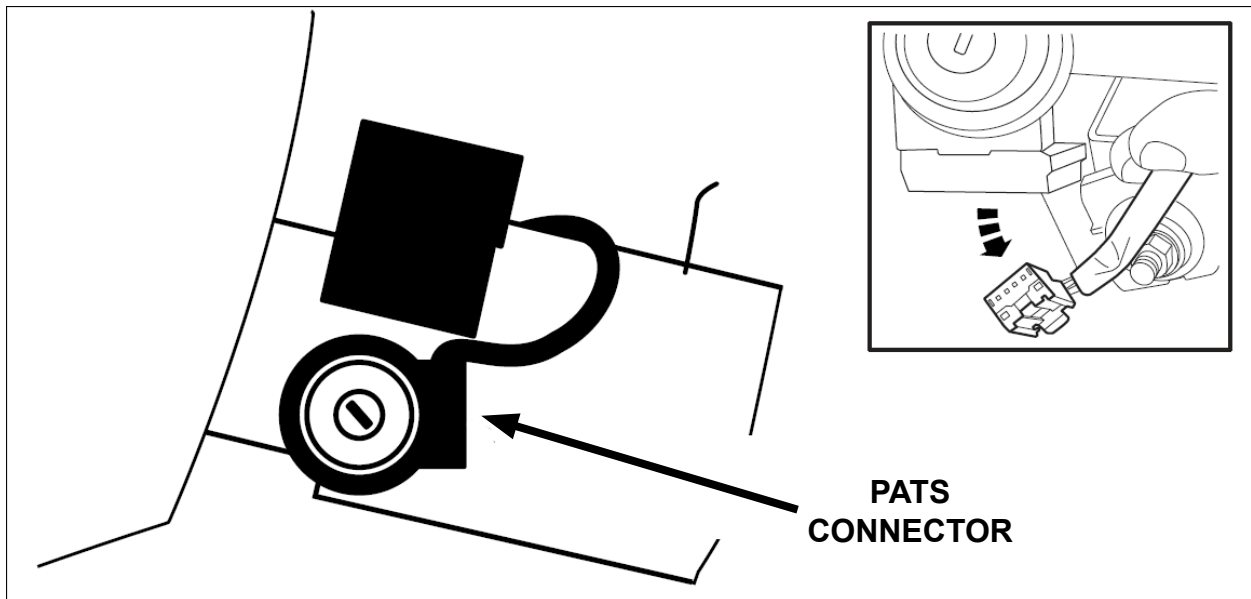

FIGURE 7
35. If equipped, Connect the PATS transceiver electrical connector. Reposition the harness and install the pin-type retainer. See Figure 7.